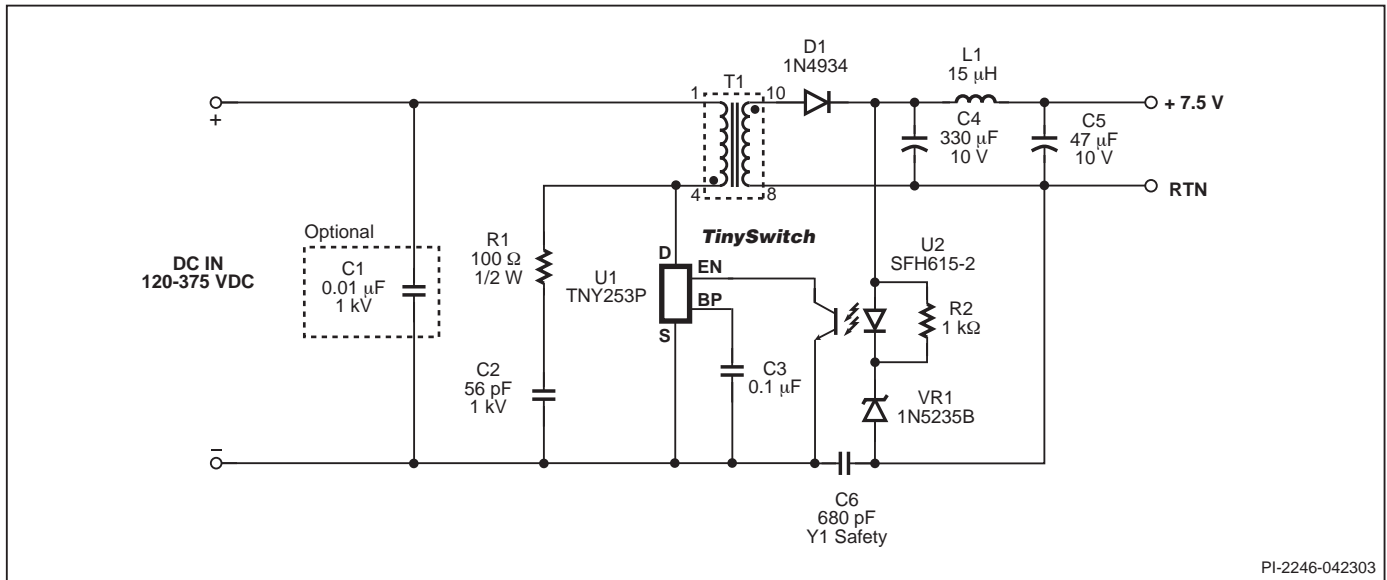

Figure 9. 1.3 W TV Standby Circuit using TNY253.
*TinySwitch* is an ideal solution for low cost, high efficiency standby power supplies used in consumer electronic products such as TVs. Figure 9 shows a 7.5 V, 1.3 W flyback circuit that uses TNY253 for implementing a TV standby supply. The circuit operates from the DC high voltage already available from the main power supply. This input voltage can range from 120 to 375 VDC depending on the input AC voltage range that the TV is rated for. Capacitor C1 filters the high voltage DC supply, and is necessary only if there is a long trace length from the source of the DC supply to the inputs of the TV standby circuit. The high voltage DC bus is applied to the series combination of the primary winding of T1 and the integrated high voltage MOSFET inside the TNY253. The low operating frequency of the TNY253 (44 kHz), allows a low cost snubber circuit C2 and R1 to be used in place of a primary clamp circuit. In addition to limiting the DRAIN turn off voltage spike to a safe value, the RC snubber also reduces radiated video noise by